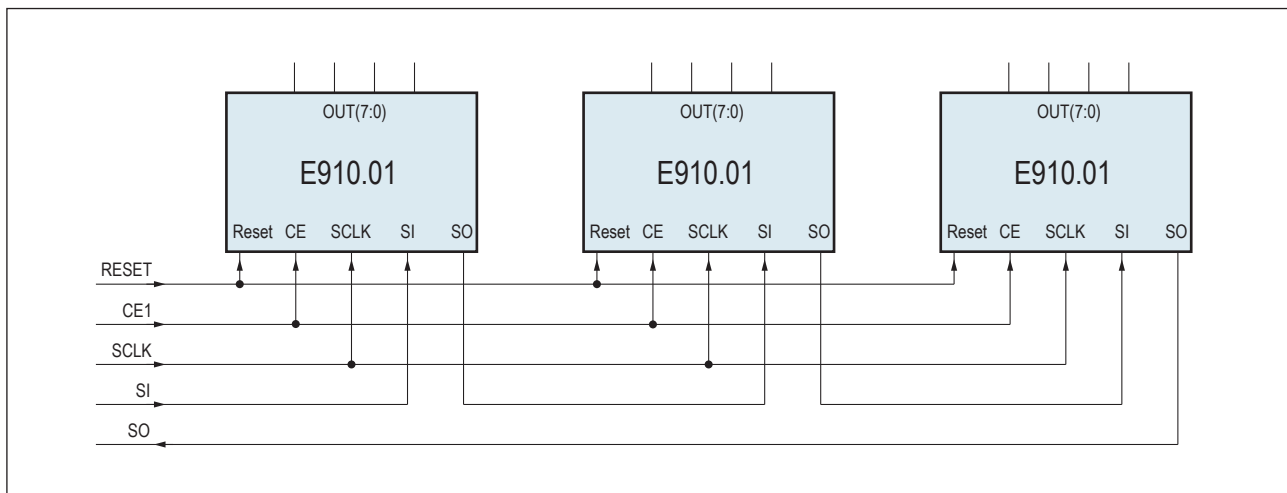
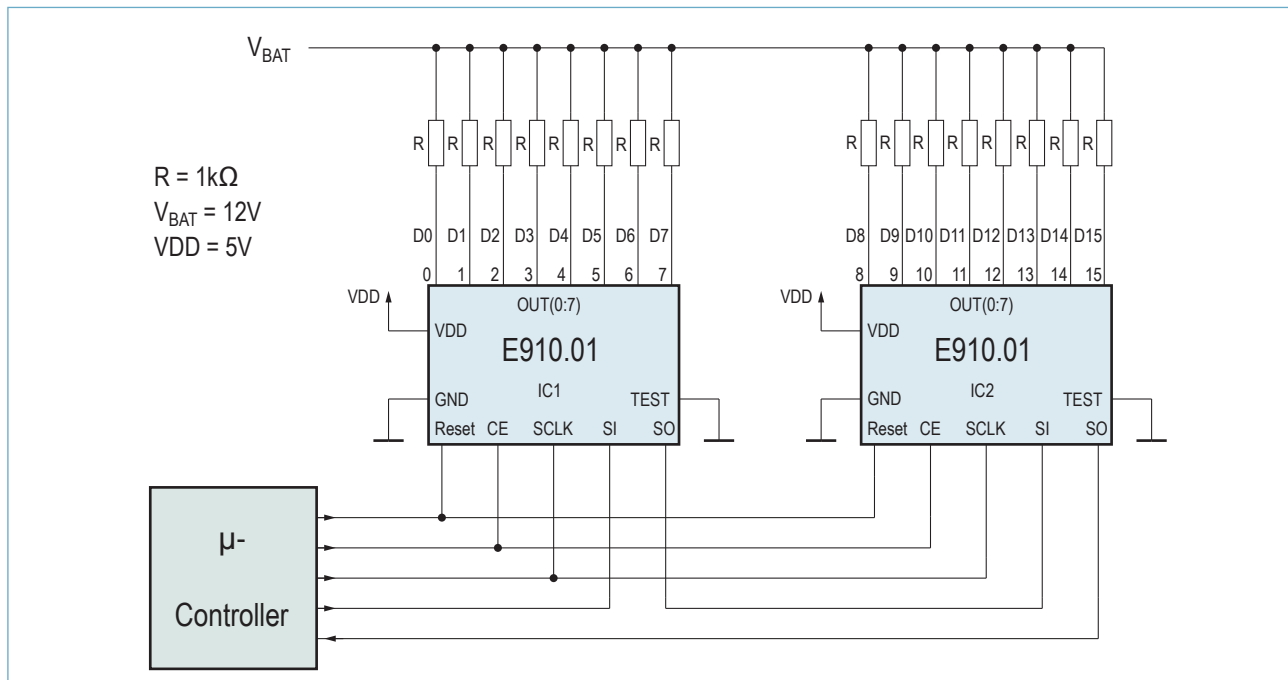

Figure 6: Serial data input
Figure 7: Typical application circuit
b) Serial data input (see Figure 6 and Figure 7/8)